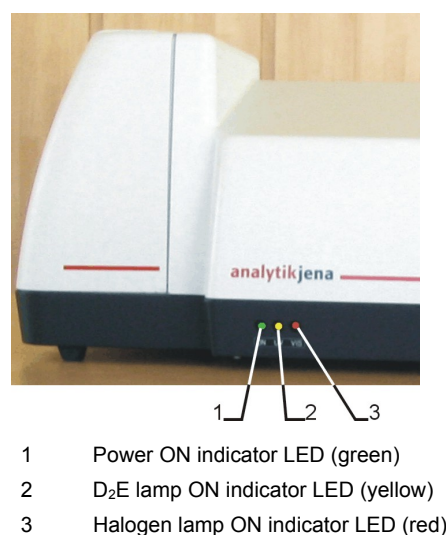

Fig. 6-2 Display elements on front panel
3. The green Power ON LED on the front panel of the device lights. (→ Refer to Fig. 6-2 Display elements on front panel, p. 21).